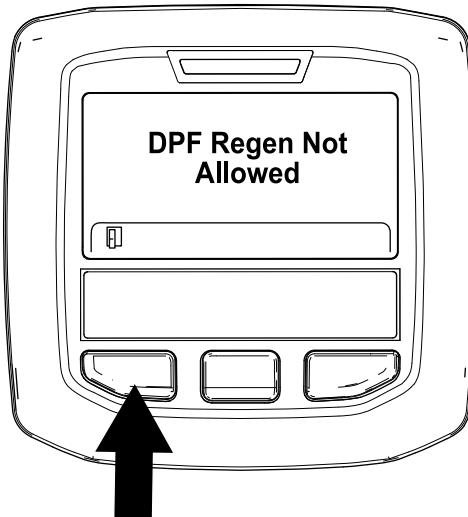

Figure 40
- If the regeneration process is not allowed by the engine computer, the “DPF Regen Not Allowed” message displays in the InfoCenter (Figure 40). Press the left button to exit to the home screen